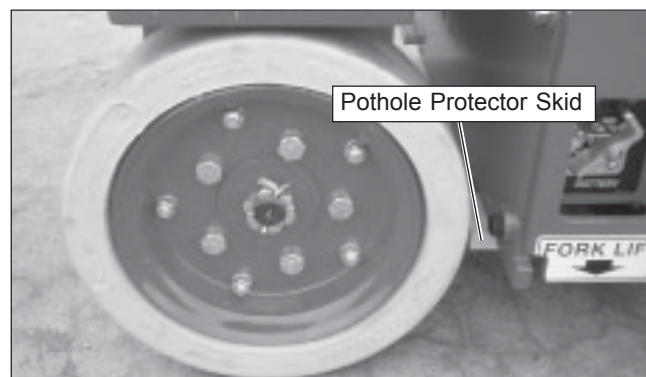

Figure 8.12 – Pothole Protector Skid
3. With the trays closed, check the ground clearance under the pothole protector skids (refer to Figure 8.12). Clearance should be at about 7 cm ($2\frac{3}{4}$ ") on both sides of the aerial platform.